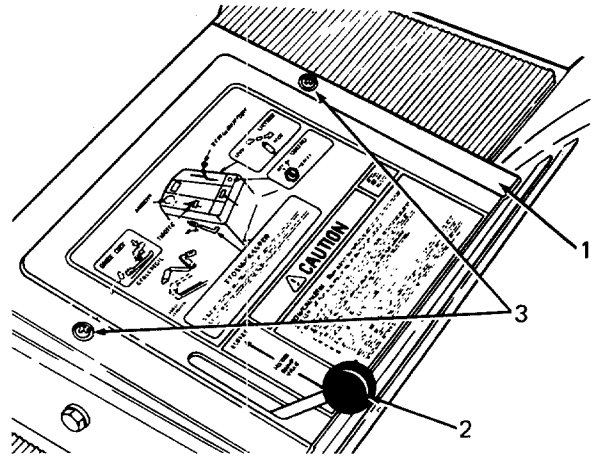

Figure 15
1. Remove two screws holding frame cover to frame in the step through area. (Refer to Figure 15.)